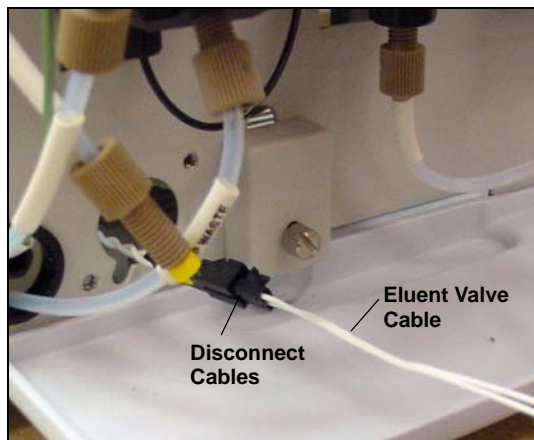

Figure 5-16. Eluent Valve Cable
7. The cable is connected to a matching cable inside the ICS-1000. Continue pulling until the connectors for the two cables are outside the panel (see Figure 5-16). Disconnect the cables.